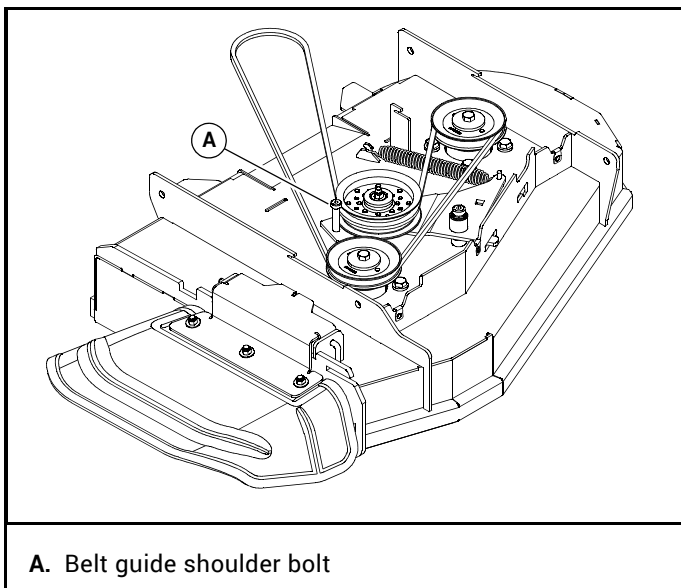

Figure 6-11
4. Locate and remove the belt guide shoulder bolt. Figure 6-11
10. Install the belt guide shoulder bolt. Make sure the belt is routed between the shoulder bolt and the pulley. Figure 6-11